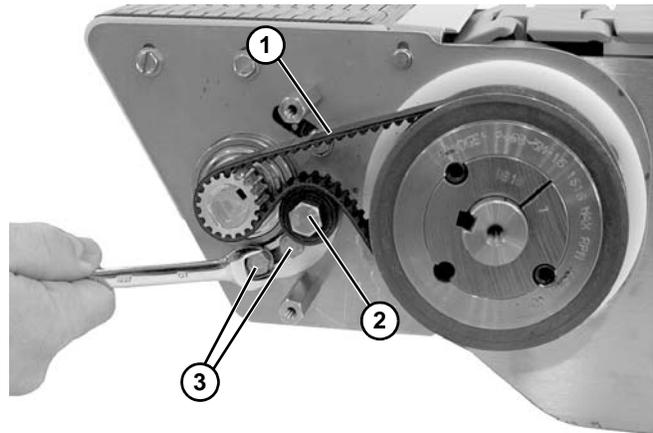

Figure 79
- Route and install timing belt (**Figure 79, item 1**) as shown. Press down on tensioner (**Figure 79, item 2**) and tighten two hex head screws (**Figure 79, item 3**).